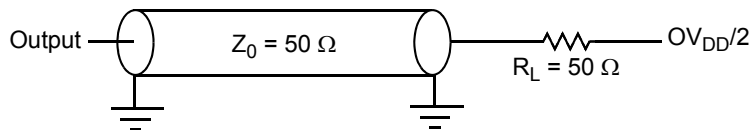

Figure 32. AC Test Load for the JTAG Interface
- All outputs are measured from the midpoint voltage of the falling/rising edge of t_{TCLK} to the midpoint of the signal in question. The output timings are measured at the pins. All output timings assume a purely resistive 50-Ω load (see Figure 32). Time-of-flight delays must be added for trace lengths, vias, and connectors in the system.
- The symbols used for timing specifications follow the pattern of $t_{\text{(first two letters of functional block)(signal)(state)(reference)(state)}}$ for inputs and $t_{\text{(first two letters of functional block)(reference)(state)(signal)(state)}}$ for outputs. For example, t_{JTDVXH} symbolizes JTAG device timing (JT) with respect to the time data input signals (D) reaching the valid state (V) relative to the t_{JTG} clock reference (K) going to the high (H) state or setup time. Also, t_{JTDXKH} symbolizes JTAG timing (JT) with respect to the time data input signals (D) went invalid (X) relative to the t_{JTG} clock reference (K) going to the high (H) state. Note that, in general, the clock reference symbol representation is based on three letters representing the clock of a particular functional. For rise and fall times, the latter convention is used with the appropriate letter: R (rise) or F (fall).